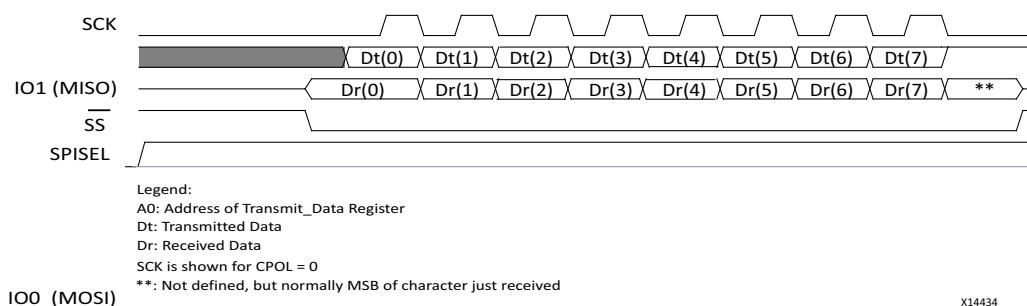

Figure 3-3: Data Write-Read Cycle on SPI Bus with CPHA = 0 and SPICR(7) = 0 for 8-bit Data
Figure 3-3 shows the timing diagram for a standard SPI mode data write-read cycle when CPHA = 0. The waveforms are shown for CPOL = 0, LSB First = 0, and the value of generic C\_SCK\_RATIO = 4. All AXI and SPI signals have the same relation regarding S\_AXI\_AClk and SCK respectively.
- Rx\_Empty bit (0), Tx\_Full bit, and bit 3 in the SPISR are cleared.
- Tx\_Empty bit (2), Rx\_Full bit, and bit 1 in SPISR are set.
- DRR Full bit (4), Slave MODF bit, and bit 1 in the IPISR are set on the first rising AXI clock edge after the end of the last SCK cycle.
**Note:** The end of the last SCK cycle is a transition on SCK for CPHA = 0, but is not denoted by a transition on SCK for CPHA = 1 (see Figure 3-3 and Figure 3-4). However, the internal master clock provides this SCK edge which prompts the setting and clearing of the bits noted.